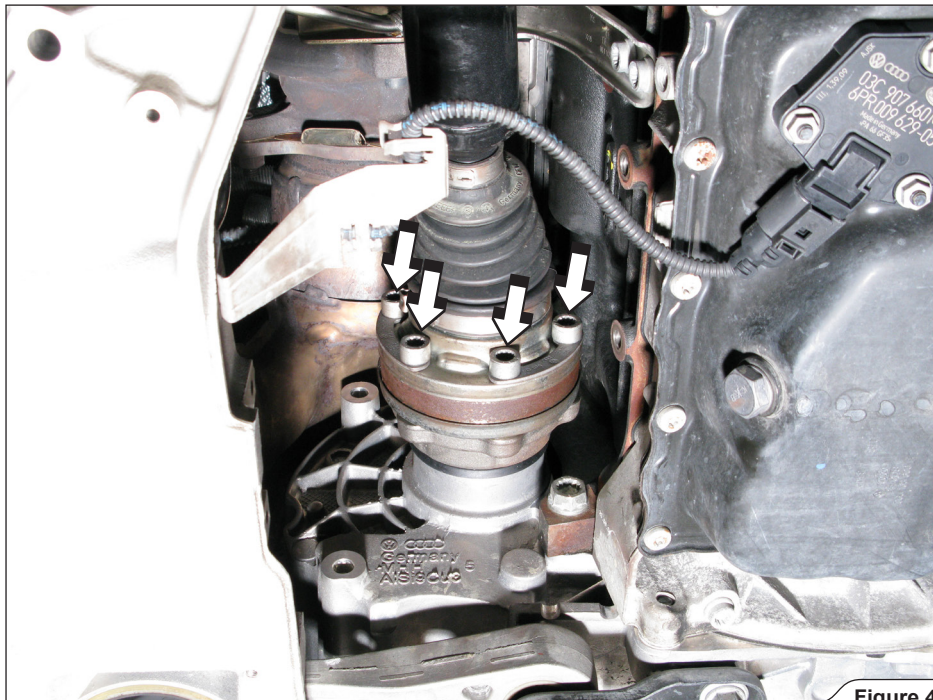

Figure 4
4. Unscrew the six output shaft's bolts and remove the shaft out of the way (Figure 4, 5).